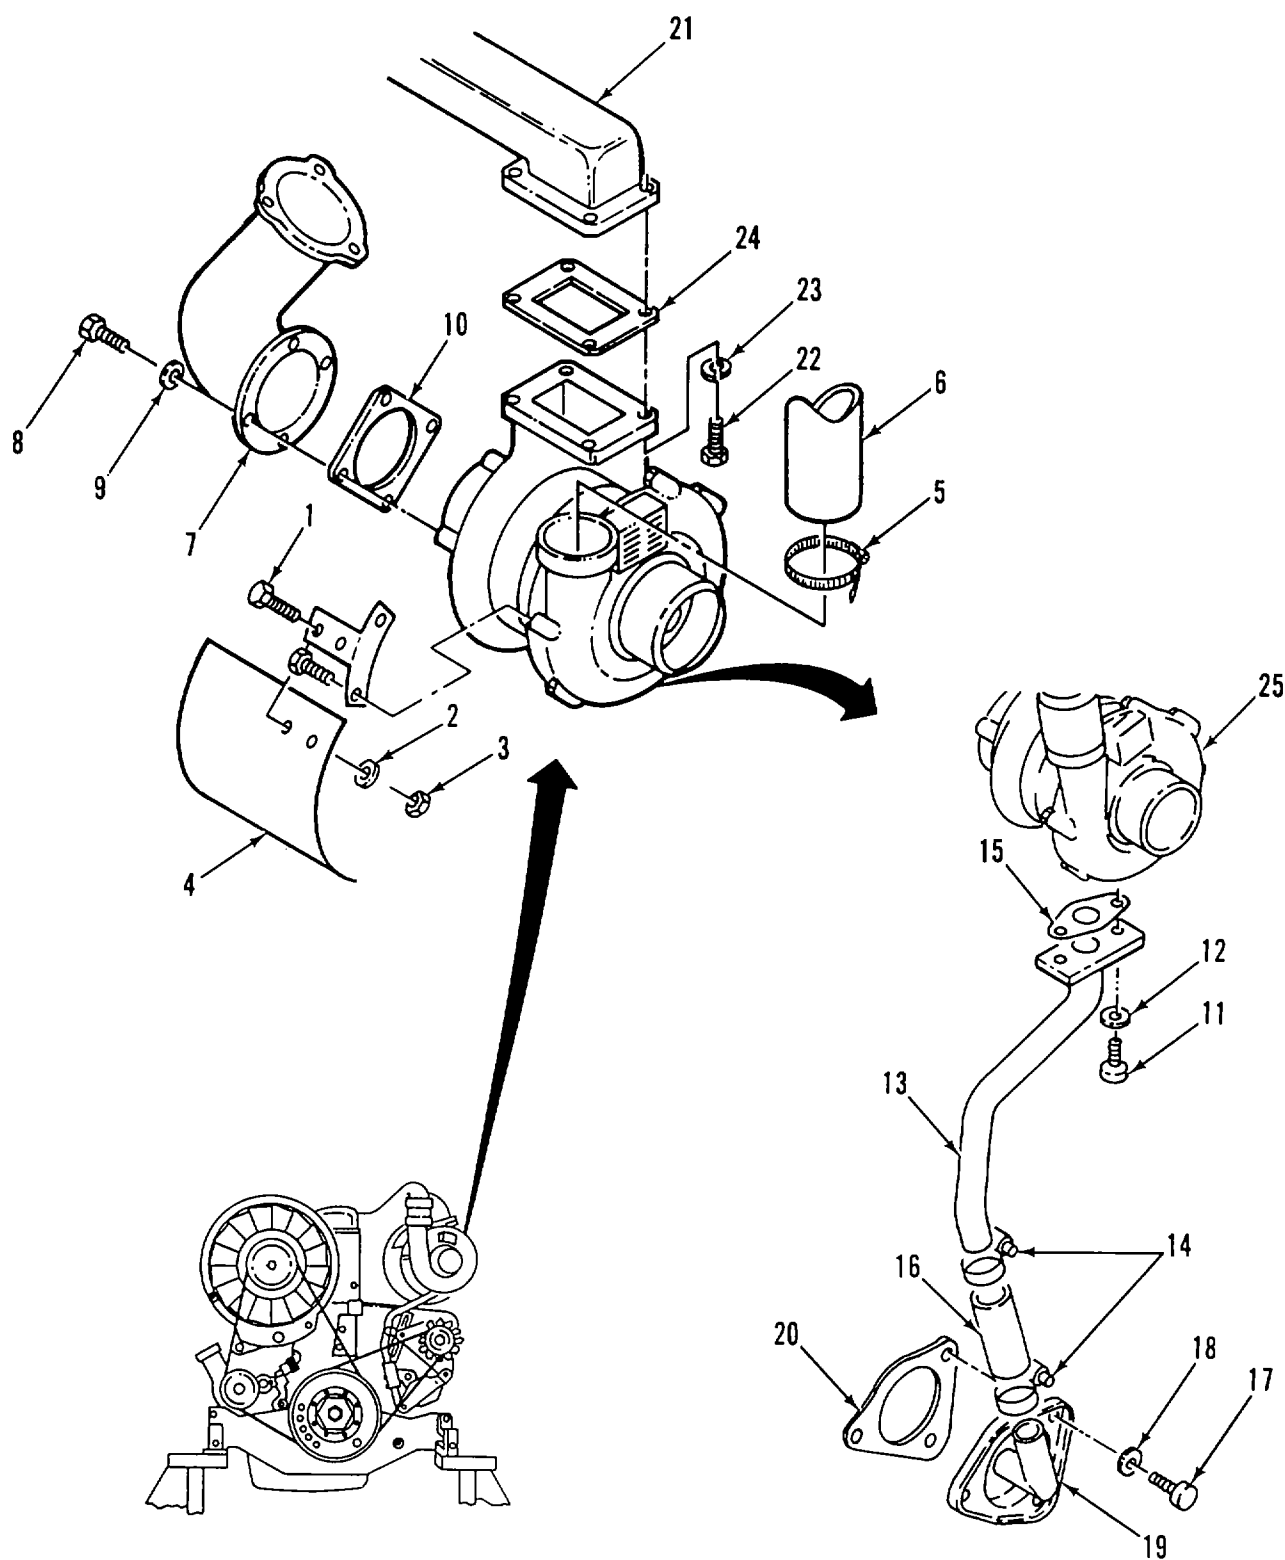

Figure 3-20. Turbocharger
a. REMOVE. (Figure 3-20)
- (1) Remove top cover of air outlet frame (para. 3-22).
- (2) Remove bolts (1), flat washers (2), nuts (3), and heat shield (4).
- (3) Loosen hose clamp (5) on intake manifold connection hose (6).
- (4) Disconnect exhaust pipe flange (7) by removing bolts (8) and lockwashers (9). Remove gasket (10).
- (5) Remove screws (11) and flat washers (23) securing oil drain tube (13) to turbocharger (24).
- (6) Loosen hose clamps (14).
- (7) Remove oil drain tube (13), gasket (15), and rubber hose (16).
- (8) Remove screws (17), flat washers (18), cover (19), and gasket (20).
- (9) Disconnect exhaust manifold (21) by removing bolts (22) and lockwashers (23). Remove gasket (24).
- (10) Remove turbocharger (25).